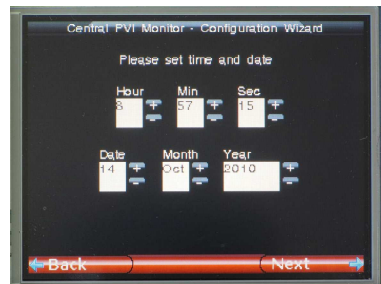

Figure 14-15: Date/Time setting
- The following screen (Figure 14-15), allows setting date and time of the installation location. In this screen it is only possible to set date and time for the main display.